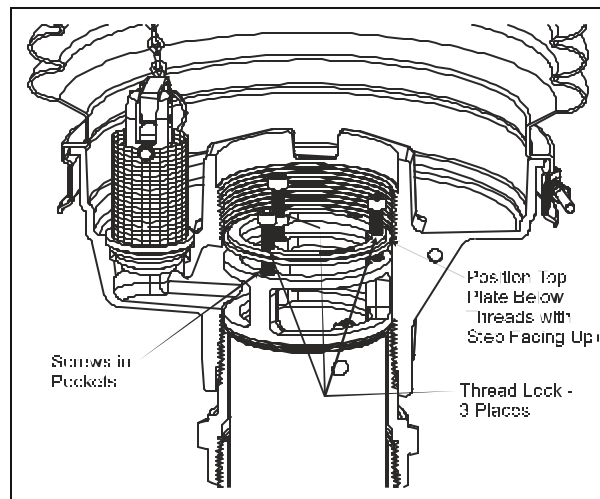

Figure 5
Step 5: (See Figure 5)
Step 6: (See Figure 5)